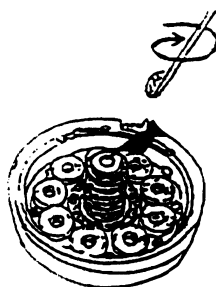

FIG B-4
- 5) Apply grease VFK0959 uniformly to the upper, inner part of the cylinder unit bearing. Fig. B-4 and B-5.